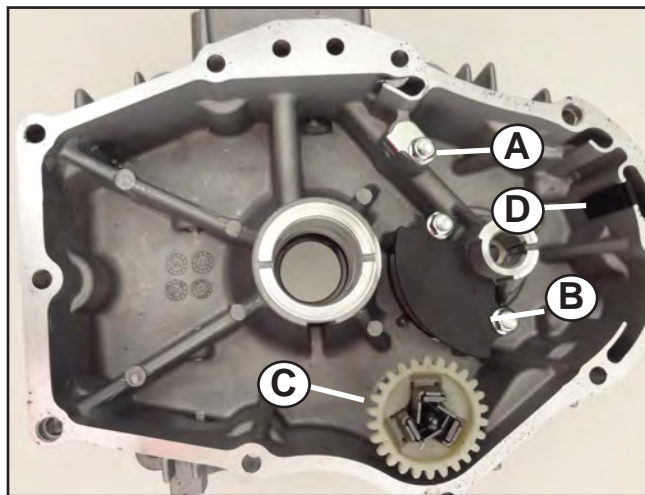

Figure 24
4. Remove and inspect the following, if not previously removed (Figure 24):